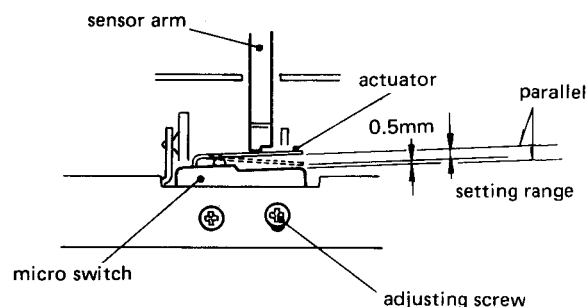

Fig. 4-3
2. Adjust mounting position of two micro switches, cassette-in switch and record safety switch, so that the actuator position is in the setting range shown by Fig. 4-3.